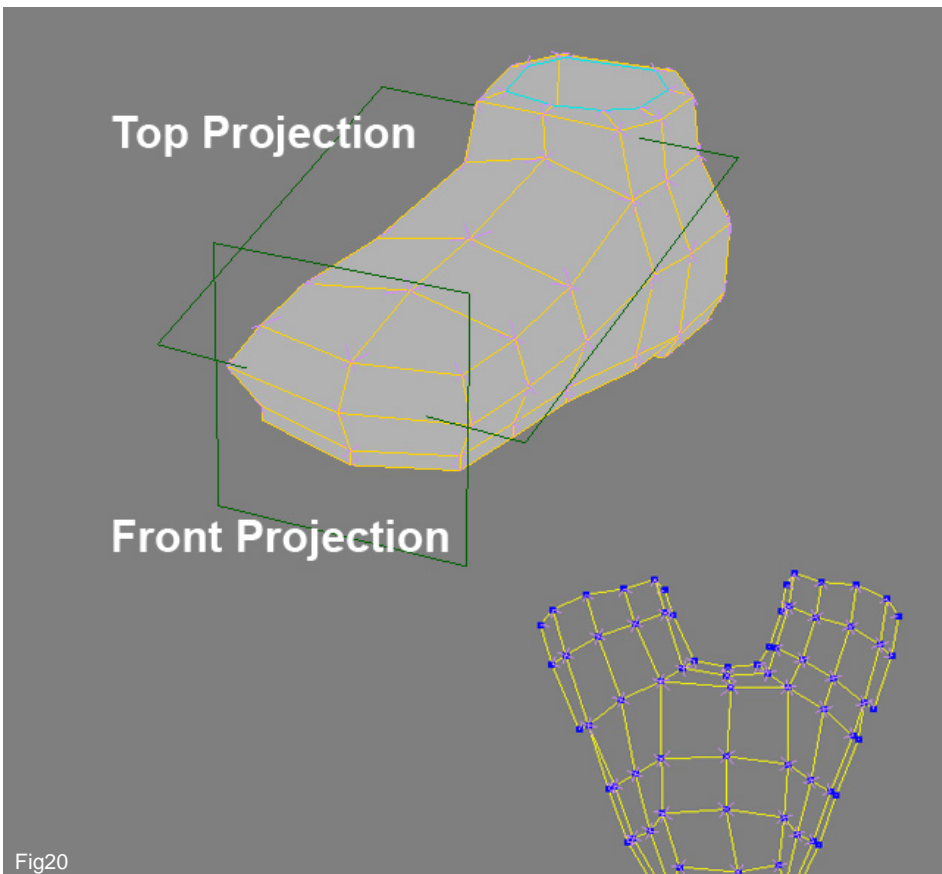

Fig20
20. Now apply two more sub-projection to the foot, one from the top and one from the front, as shown in Fig20. You will end up having 4 parts for the foot (two sides, one top and one front). Put them together with the heal tool.